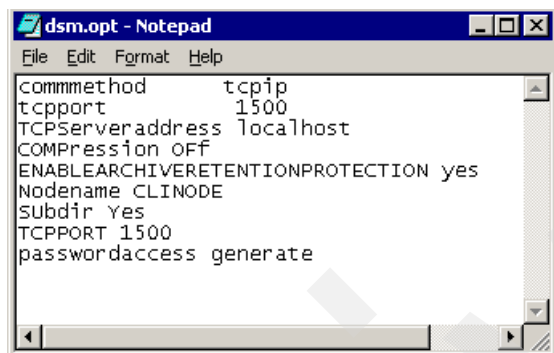

Figure 5-32 Example of a dsm.opt file
11. Edit the dsm.opt file within the BA client installation folder (see Figure 5-32). Set the following parameters: